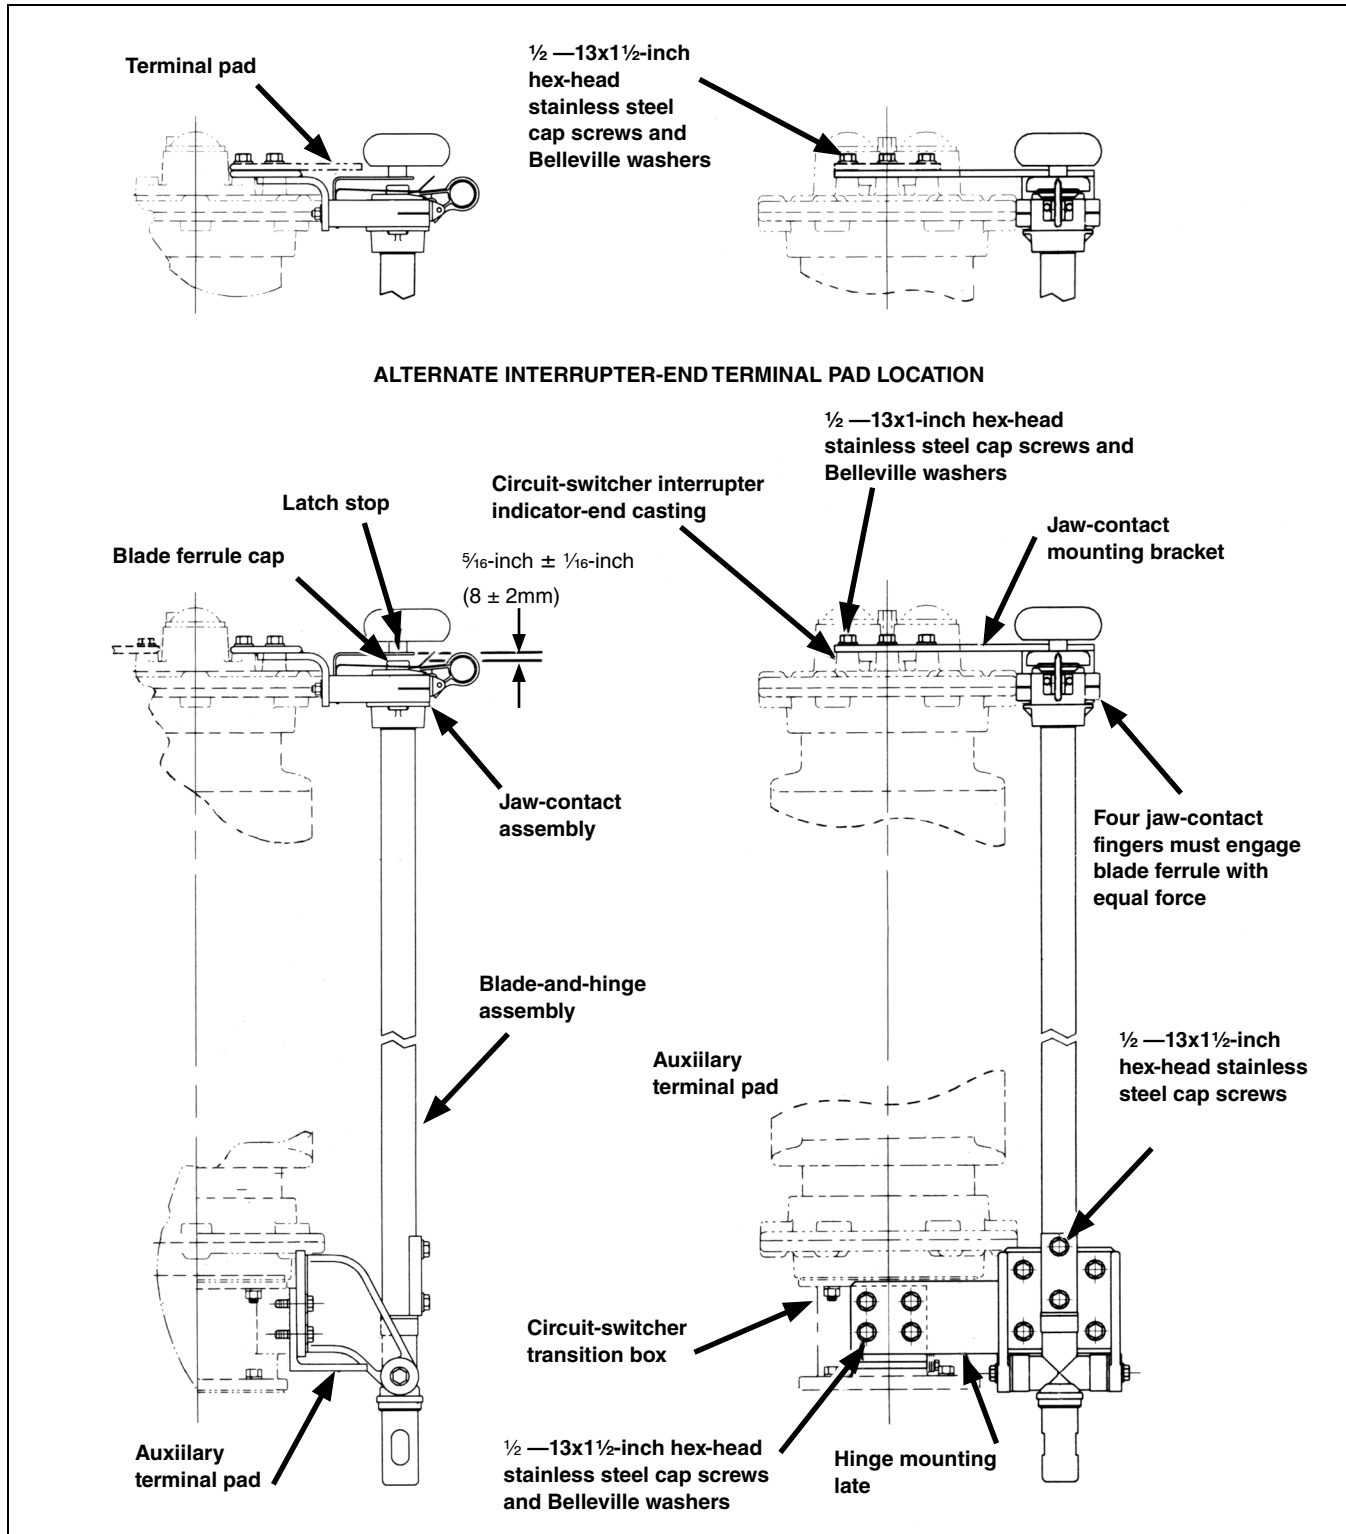

Figure 2. Installing and aligning a bypass accessory for a Series 2000 Circuit-Switcher.
**STEP 2.** Attach each bypass accessory blade-and-hinge assembly to its respective circuit-switcher transition box as follows. See Figure 2.
**STEP 3.** Attach each bypass accessory jaw-contact assembly to its respective circuit-switcher interrupter indicator-end casting as follows. See Figure 2 on page 10.
**STEP 4.** Align each bypass accessory blade-and-hinge assembly with its associated jaw-connect assembly as follows. See Figure 2 on page 10.
**STEP 5.** Check on each bypass accessory that the blade ferrule properly engages the latch on its associated jaw-contact assembly as follows. See Figure 2 on page 10.